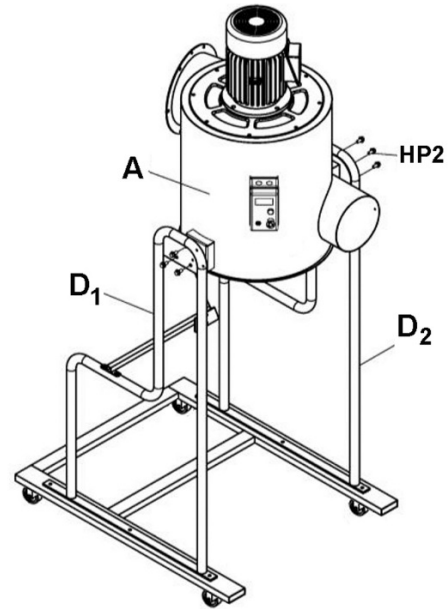

Figure 5
5. Lift main housing (A) using hoist with straps through lifting rings atop main housing. If hoist is not available, at least **2 persons** must lift housing.
6. Position main housing (A) between left and right stands (D1, D2), and secure with flange head screws (HP2). See Figure 5.